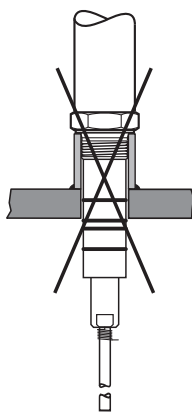

Fig. 11
- Do not screw electrode directly into a screwed socket, Fig. 6, Fig. 11.